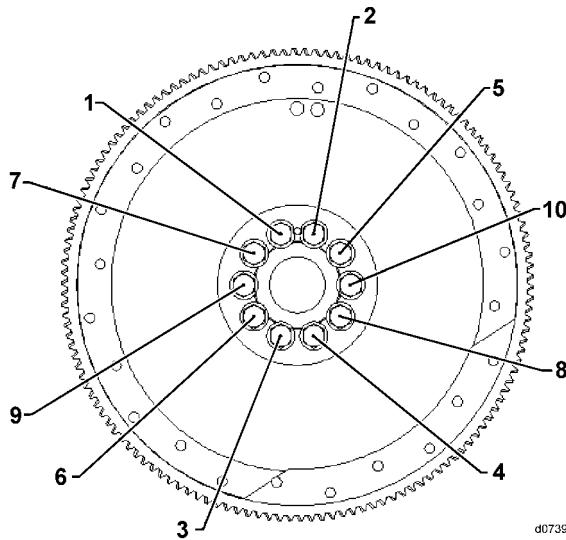

Figure 43 Typical Flexplate and Flywheel Torque Sequence
50. Snug all bolts in sequence, as shown in Figure 43, to 1 to 7 N·m (12 to 60 lbf-in).
51. Torque all bolts in sequence as shown in Figure 43, to 85 to 103 N·m (63 to 76 lbf·ft).
57. Snug all bolts in sequence as shown in Figure 43 (See Figure 43, page 25) to 1 to 7 N·m (12 to 60 lbf-in).
58. Torque all bolts in sequence as shown in Figure 43 (See Figure 43, page 25) to 85 to 103 N·m (63 to 76 lbf·ft).